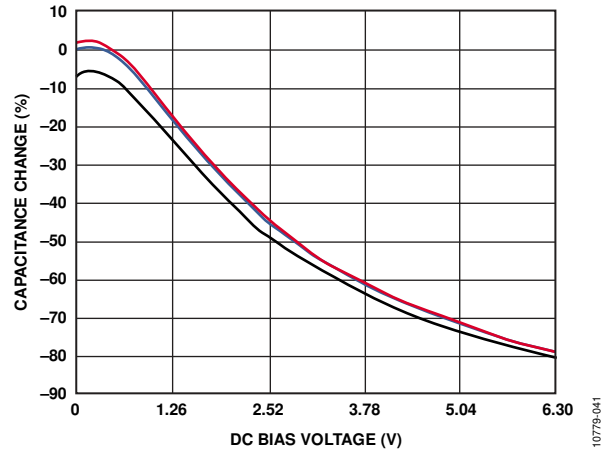

Figure 41. DC Bias Characteristic of a 6.3 V, 10  $\mu$ F Ceramic Capacitor
- $C_{OUT}$  at  $V_{OUT}(\text{max}) = 5\text{ V}$ , is 3  $\mu\text{F}$ , as shown in Figure 41.